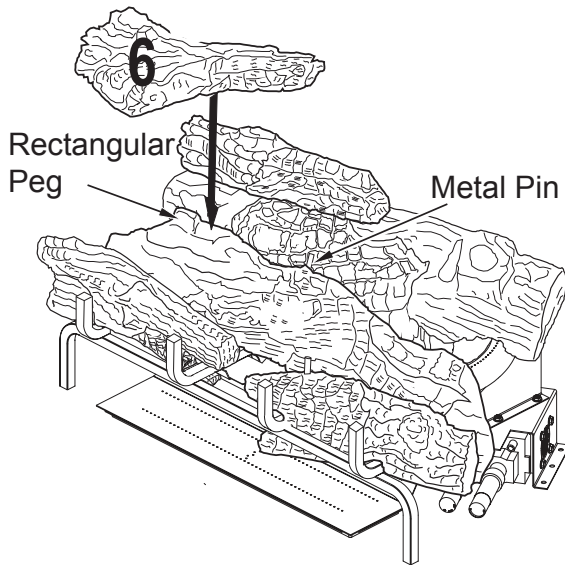

Figure 27 - Installing Log # 6
6. Place the left top forked log (#6) on the top of the middle log (#2). Match the rectangular projection on top of the middle log (#2) with the rectangular hole on the bottom of the left top forked log (#6). Match the metal pin on the top of the middle log (#2) with the round hold in the bottom of the left top forked log (#6). See Figure 27, page 22.